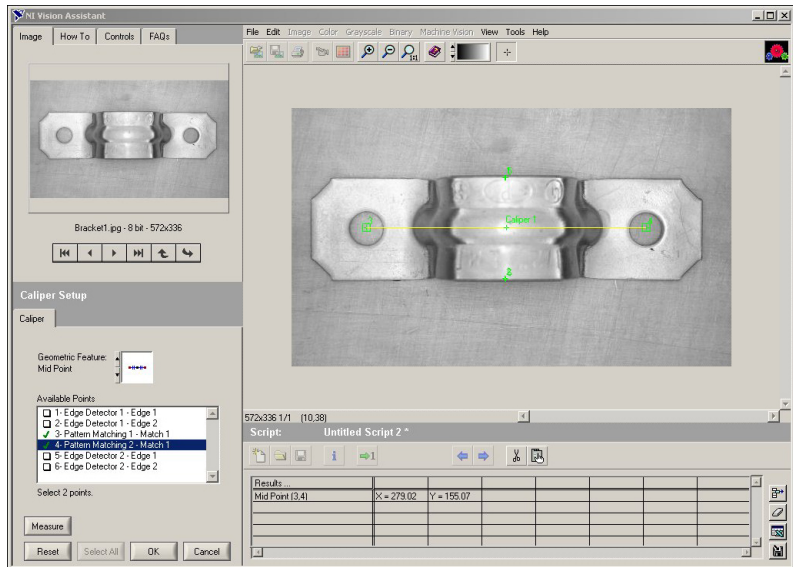

Figure 4-6. Using the Caliper Function to Find Width Center
4. Click the **Measure** button to compute the center of the bracket width and add the Width Center measurement to the results table, as shown in Figure 4-6.